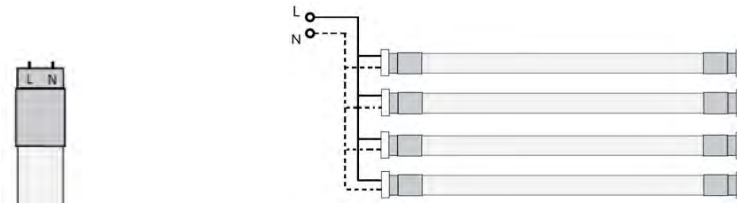

Figure 4
STEP 5: Install the Tubul[®]ARCH T5 on the powered end, marked by “L” and “N” as shown in Figure 4. Attach the field applied label to the luminaire. Install ballast cover and diffuser (if applicable) back on the luminaire, and LED tube.